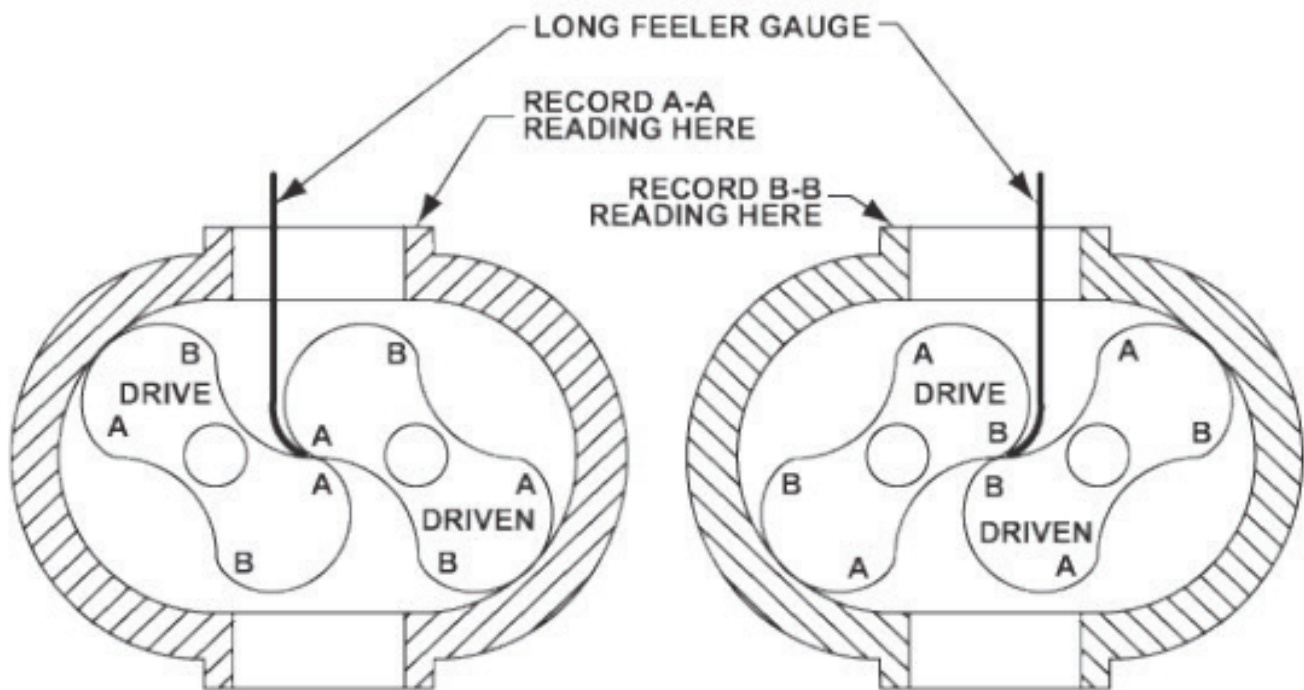

FIGURE 13
16. Check clearance between the face of the end plate and the rotor lobes. See Figure 13 for correct gear and clearances. If clearances are not within specifications, recheck the parts to find and correct the cause of improper clearances before proceeding.
32. Lay the air power unit down with the drive gear on the left. Using feeler gauges, take interlobe readings and record on each side of housing as indicated in Figure 13. By removing or adding shim behind the helical gear, it rotates as it is moved in or out and the driven rotor turns with it, thus changing the clearance between rotor lobes. Changing the shim thickness 0.006 in. (0.16 mm) will change the rotor lobe clearance one-half the amount: 0.003 in. (0.08 mm).
**EXAMPLE:** See Figure 13, check the clearance at AA (left-hand reading) and BB (right-hand reading). If AA reading is 0.003 in. (0.08 mm) and BB reading is 0.009 in. (0.24 mm), by removing 0.006 in. (0.16 mm) of shim, the readings will change one-half the amount removed or 0.003 in. (0.08 mm). AA should then read 0.006 in. (0.16 mm) and BB should read 0.006 in. (0.16 mm). The final readings should be within 0.002 in. (0.05 mm) of each other.